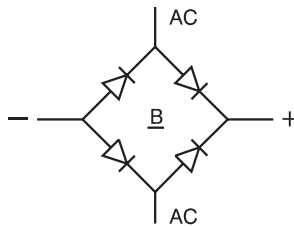

FIGURE 2
1. V_(BR) measured after I_T applied for 300us, I_T=Square wave pulse or equivalent.
2. Surge current waveform per Fig. 3 and derate per Figure 2.